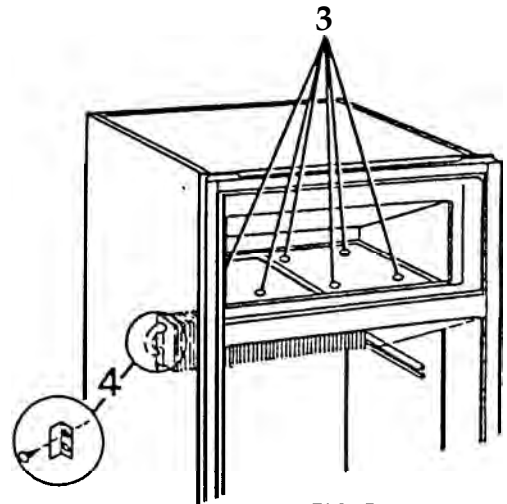

FIG. F2
3. Remove evaporator screws (FIG. F2).
3. Remove two (2) screws holding clamp for thermostat capillary tube. Pull capillary tube out gently (FIG. F2).
7. Reinstall capillary tube into proper position (FIG. F2).